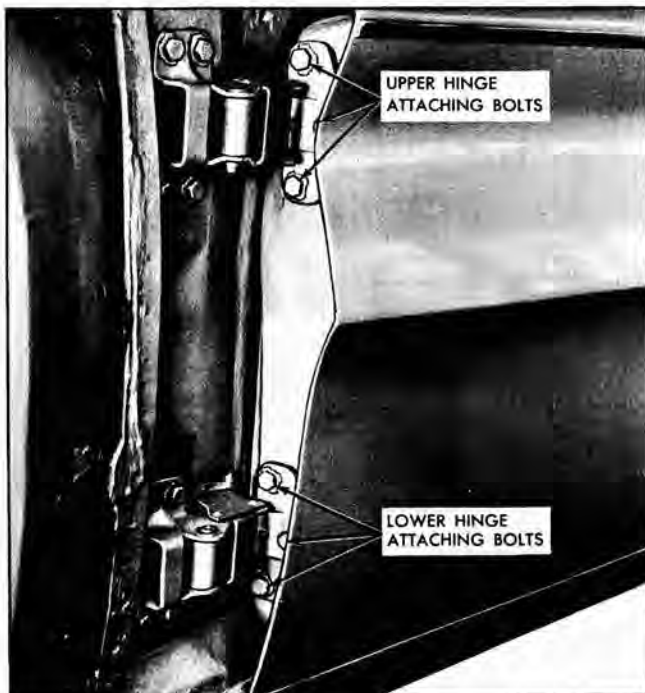

Fig. 13-15 Front Door Hinge Attachment
To remove the front door assembly from the hinges, proceed as outlined previously only remove the door to hinge bolts and it will not be necessary to remove the lower fender attaching bolt (Fig. 13-15).
2. Loosen hinge attaching bolts. Shift door to desired position, then tighten hinge attaching bolts (Fig. 13-15).